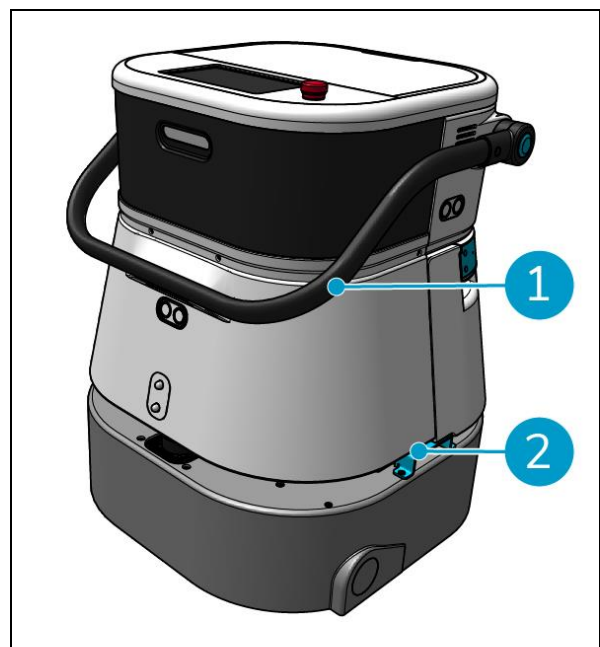

Figure 9
2. Move the co-botic 45 to its destination using the handle (Figure 9, pos. 1), or the carrying handle on both sides (Figure 9, pos. 2).
2. Carry the co-botic 45 to its destination, using the carrying handle on both sides (Figure 9, pos. 2).
2. Lift the co-botic 45 into your vehicle using the carrying handles (Figure 9, pos. 2).